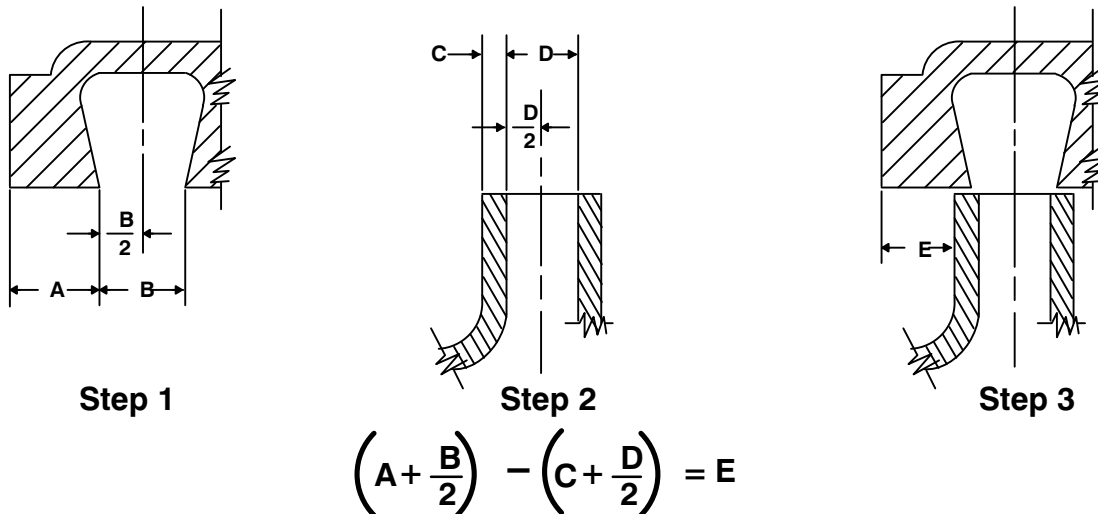

Figure 4. Centering Impeller Within Vane Plate Scroll
To verify the impeller positioning, measure the vane plate and impeller as shown in Figure 4. Use these measurements to calculate the required impeller location (dimension E). Add or remove impeller adjusting shims (17) until dimension E is obtained.